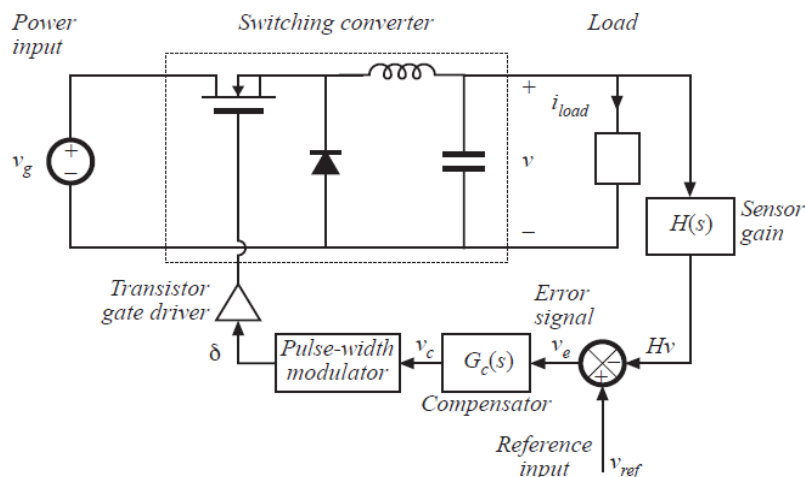

Fig.1
- 3A. The equivalent circuit model of a closed loop converter system is shown in Fig.1. Express the output voltage variation  $\hat{v}(s)$  as a linear combination of control input variation  $\hat{d}(s)$ , power input variation  $\hat{v}_g(s)$  and load current variation  $\hat{i}_{load}(s)$ .